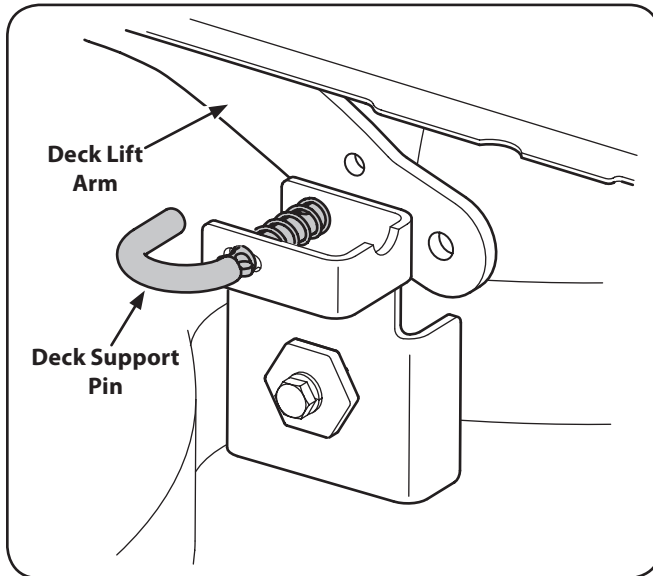

Figure 7-3
6. Pull the deck support pin outward to release the deck from the deck lift arm. See Fig. 7-3.
- b. Reconnect the deck lift arms. See Fig. 7-3.